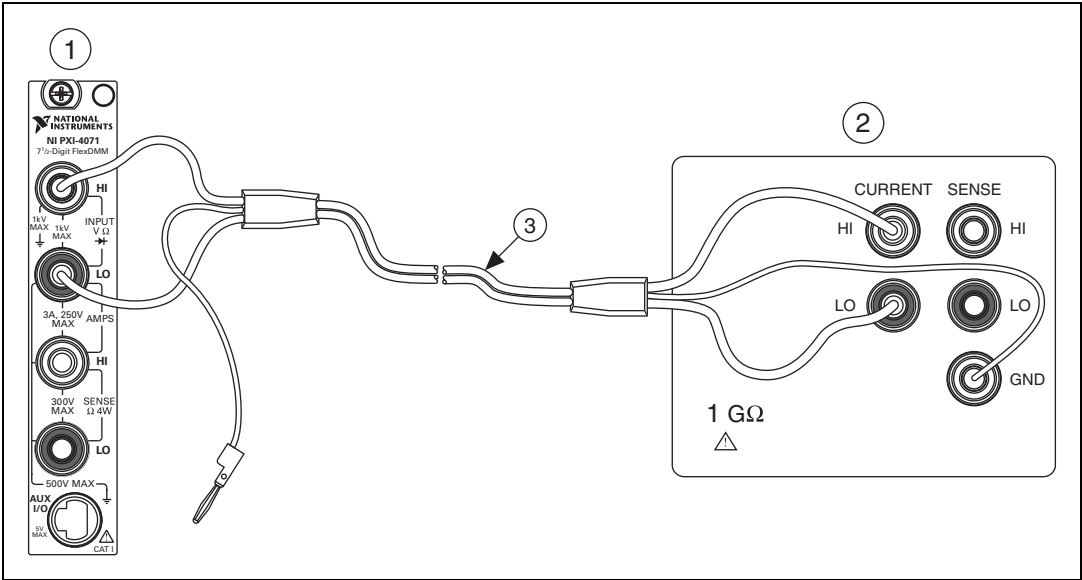

Figure 4. Cable Connections for 1 GΩ Standard Resistor
1. Connect a 1 GΩ standard resistor to the NI 4071 using the Fluke 5440 cable or applicable low thermal cabling, as shown in Figure 4. Table 12 lists the cable connections.